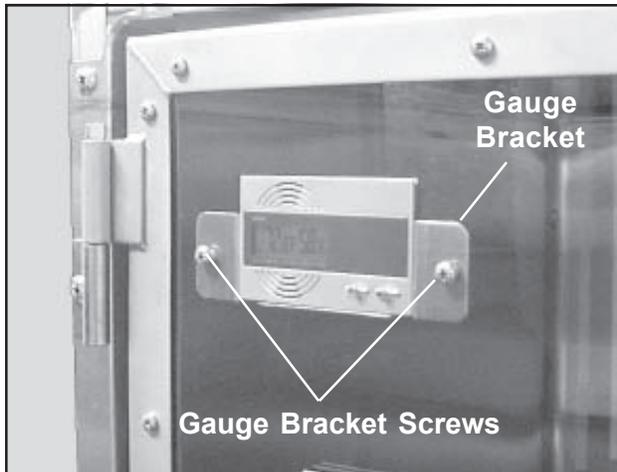

Figure 24. Front View of the New-style Gauge (mounted on door)
The original gauge was a square, analog-type instrument. This gauge is no longer available, and has been replaced by a smaller, more modern, digital instrument (Figure 24).
2. With a Phillips screwdriver and a 3/8 in. wrench, remove the two gauge bracket screws/nuts (Figure 24).